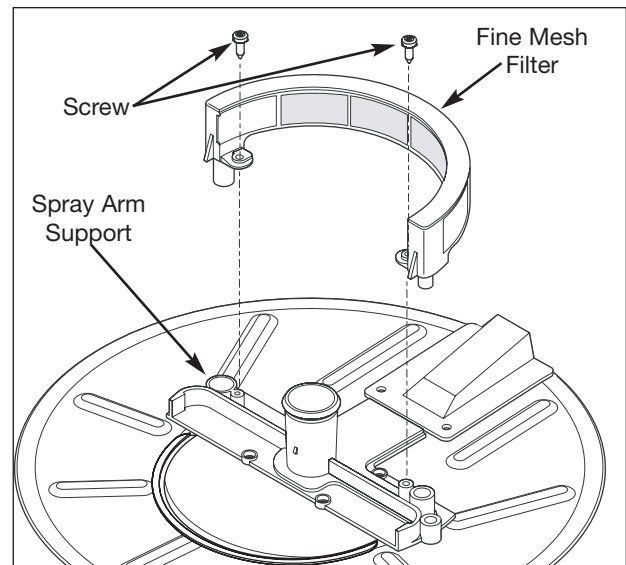

Figure 5-16. Condenser Removal
2. Using a #20 Torx bit, extract the two screws securing the pressurized fine filter to the spray arm support. Lift pressurized fine filter from stainless steel filter. (See Figure 5-16)